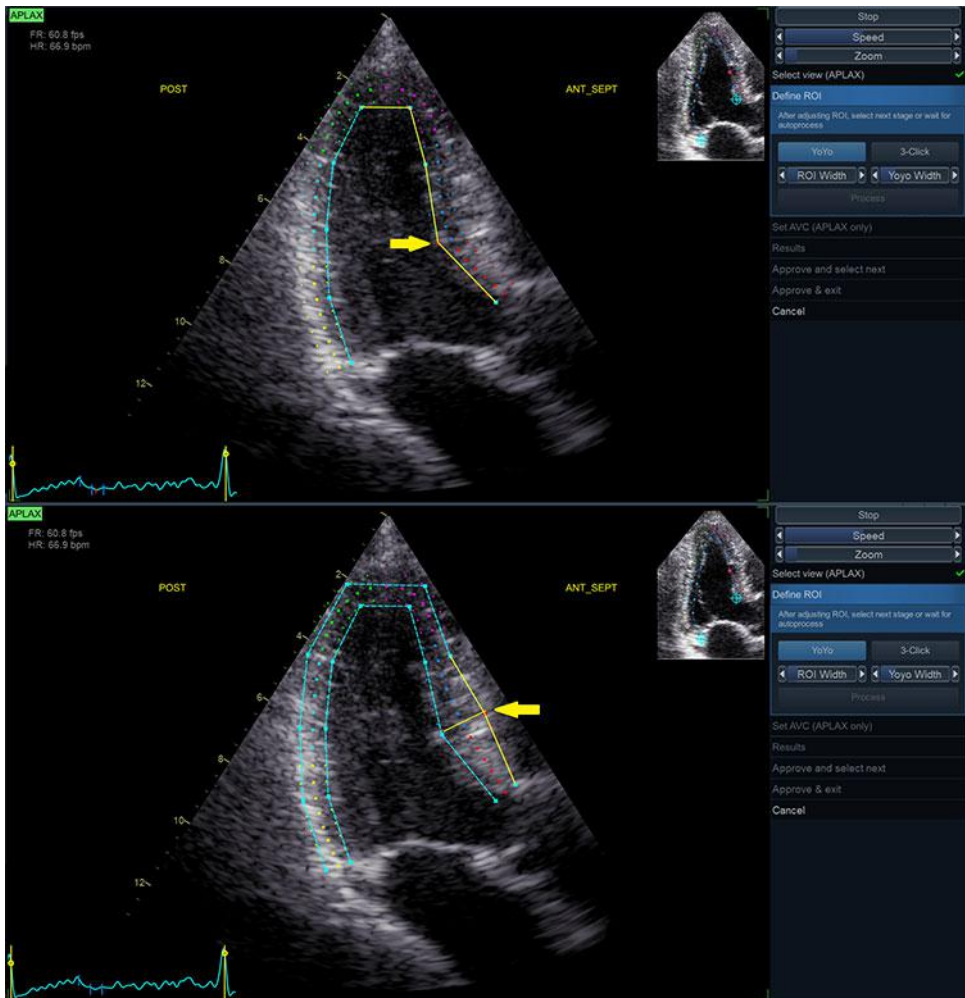

Figure 8-17. ROI Editing Options
- Click-and-drag (or click, move the mouse, click to release) on the endocardial part of the ROI. Endocardial editing edits the whole ROI (Figure 8-17, upper part).
- Click-and-drag (or click, move the mouse, click to release) the anchor points on the epicardial ROI (highlighted in red on mouse hovering). Epicardial editing edits the epicardial part only (Figure 8-17, lower part).